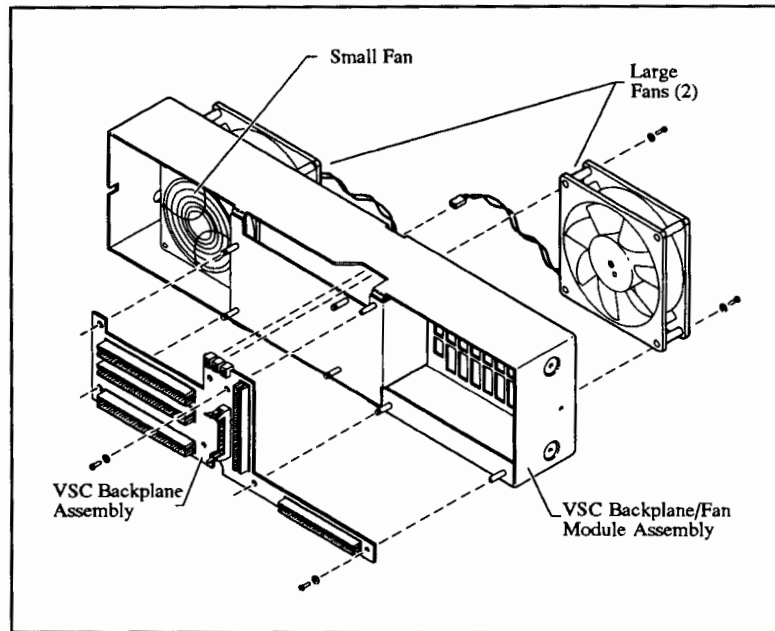

Figure 5-13. VSC Backplane or Fan Assembly Removal
- 7). Use a Pozidrive screwdriver to remove the 7 screws holding the VSC Backplane assembly to the VSC backplane/fan module as shown in Figure 5-13.
7). Use a Pozidrive screwdriver to remove the 2 screws holding the Fan assembly to the VSC backplane/fan module as shown in Figure 5-13.